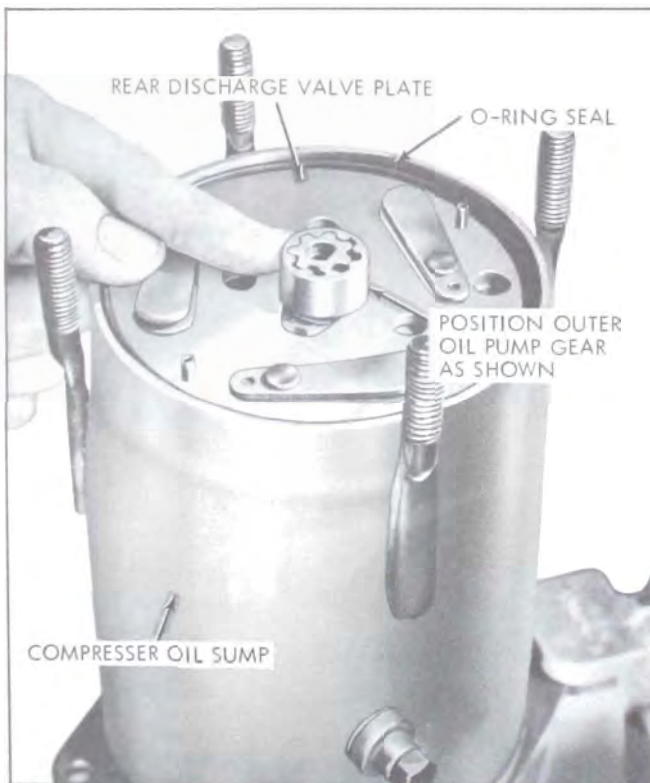

Figure 11-88—Positioning Oil Pump Outer Gear
7. Position the oil pump outer gear as shown in Figure 11-88.